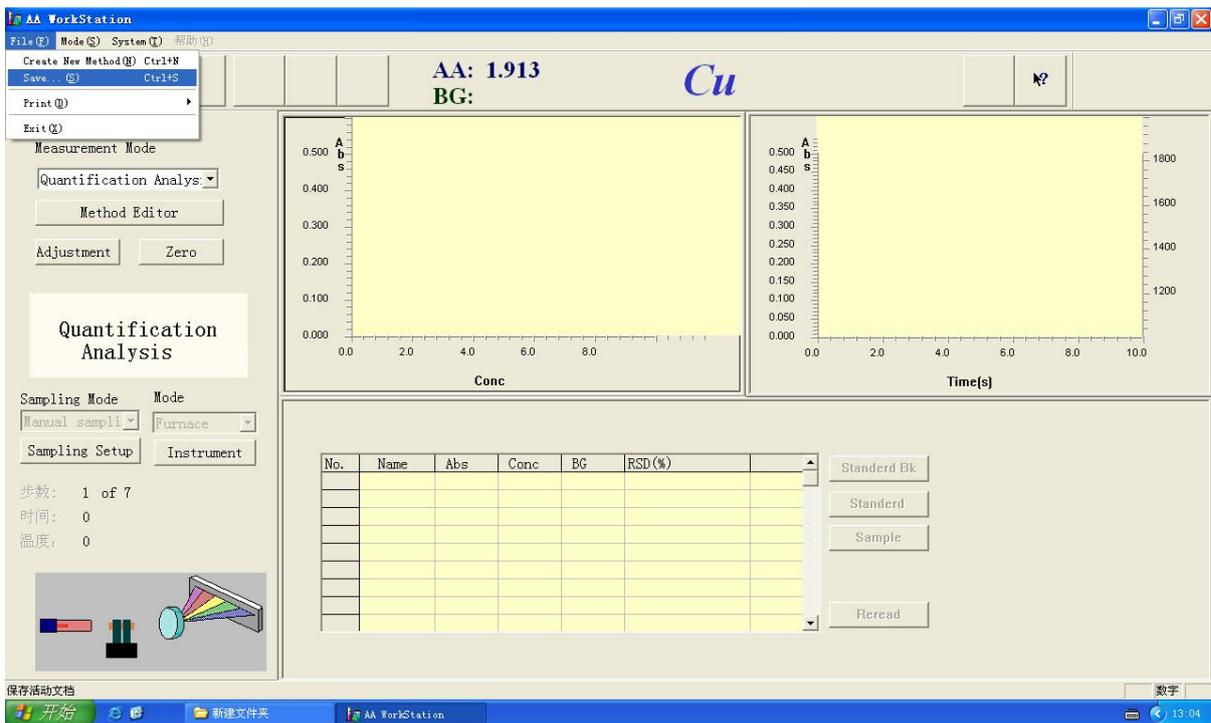

Figure 4-32
a.Select the “Save” on file menu,Figure 4-32